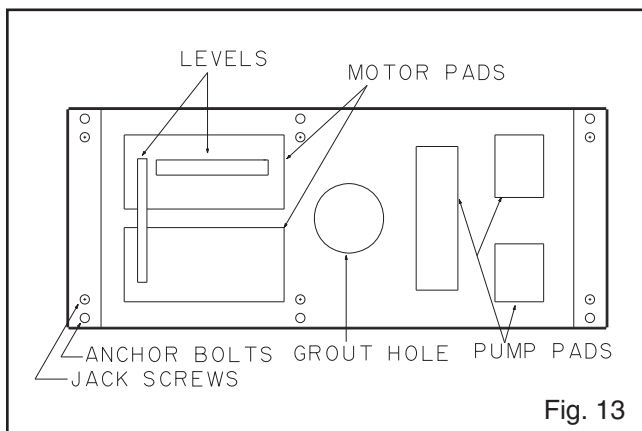

Fig. 13
4. Place two machinist levels on the motor pads, one lengthwise on a single motor pad, and another across the ends of both motor pads (Fig. 13).